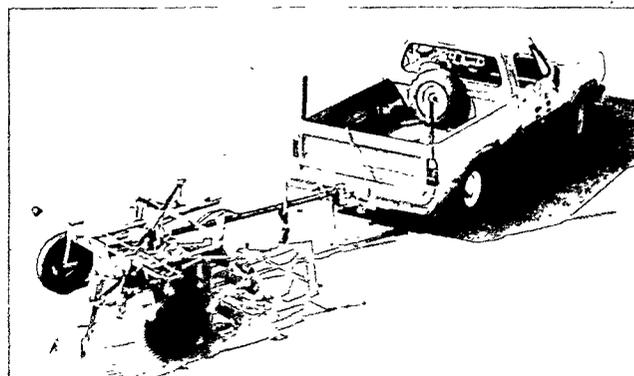

Figure 2. Fully retracted rock rake.
- Right-End Extension: To change the width of the rake (fig. 2)